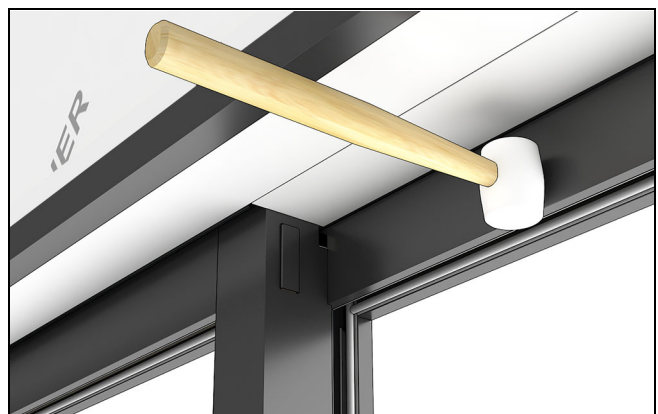

Figure 112
2. Starting from the exterior, install the head jamb covers. The covers have a leg that fits into a kerf on the jamb weather strip or a kerf in the frame itself. Fit the leg on the cover into the kerf on the jamb and rotate the cover into place. You may need to seat the cover with a rubber mallet. See Figure 110, Figure 111, and Figure 112.